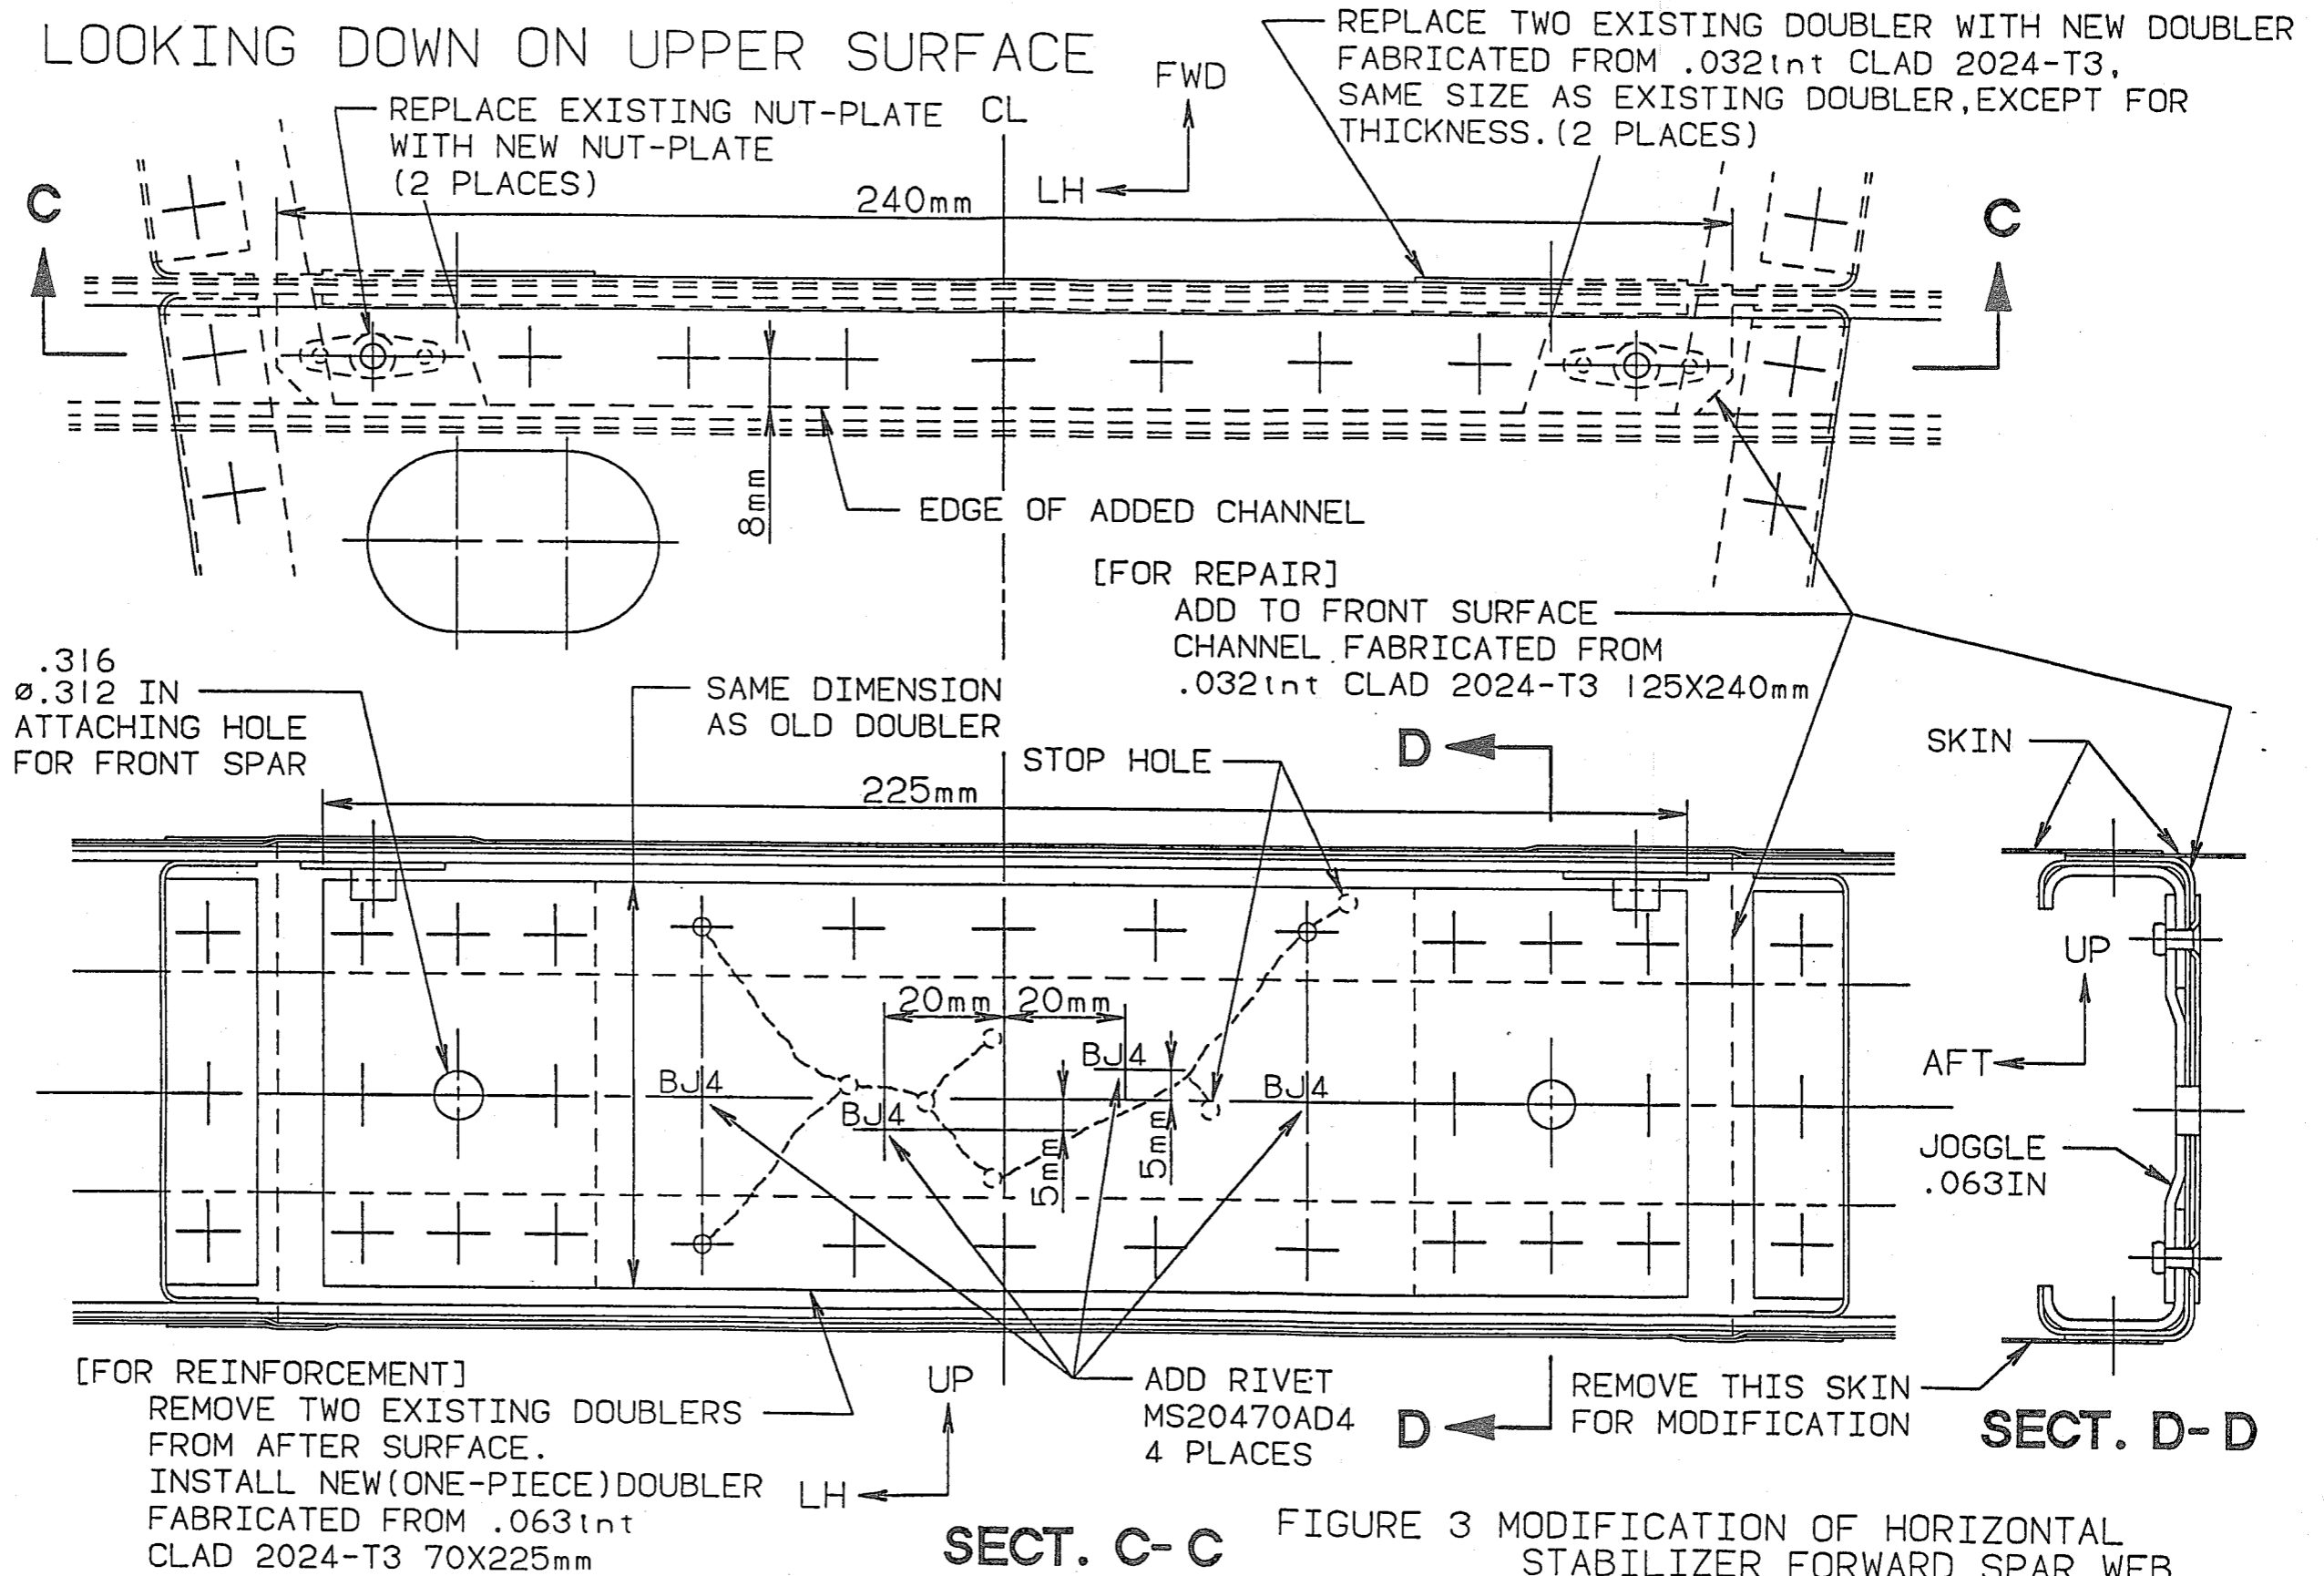

FIGURE 3 MODIFICATION OF HORIZONTAL STABILIZER FORWARD SPAR WEB (IF CRACK FOUND)
- (4) If crack(s) are found, modify the forward spar as follows (see figure 3):
- (5) Install horizontal stabilizer in accordance with Service Manual, para 7-7.